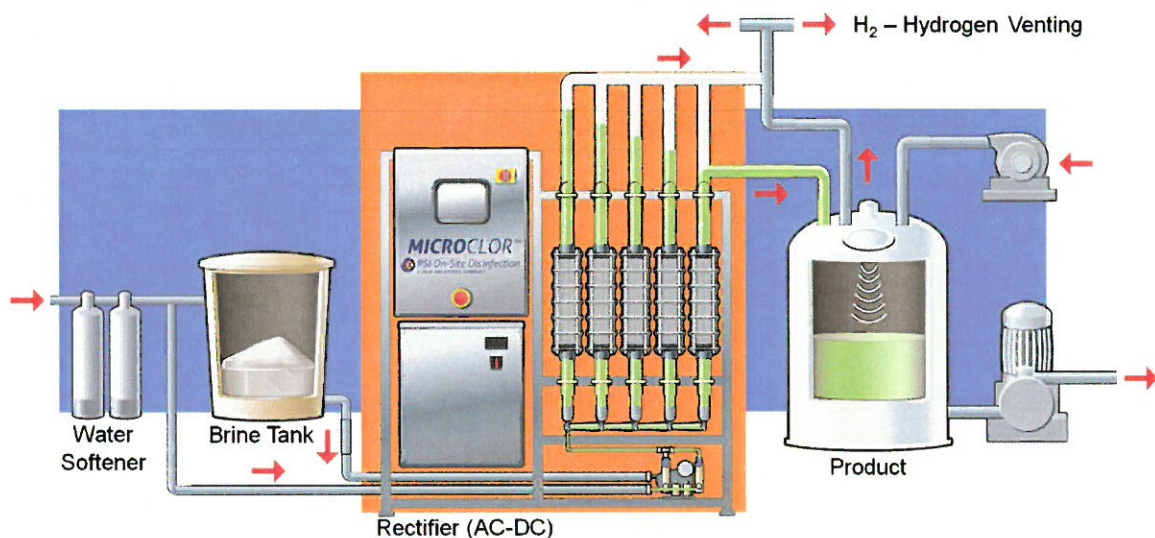

Figure 1. Diagram of the Microclor[®] process showing the placement of the ancillary equipment relative to the Microclor[®] system process skid.
- FIGURE 1: Data Sheet
A packaged on-site generation system will be provided that will manufacture a 0.8% \pm 0.05% solution of sodium hypochlorite (NaOCl) to be used as a disinfectant using salt, water and DC current. Equipment required for on-site hypochlorite generation includes consist the following major components (Fig. 1):